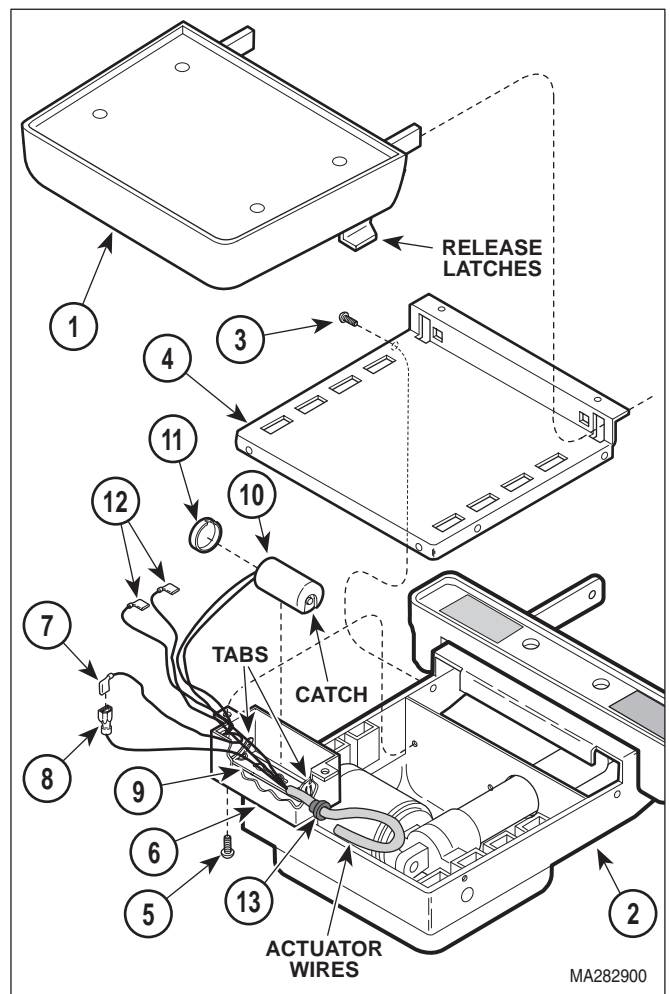
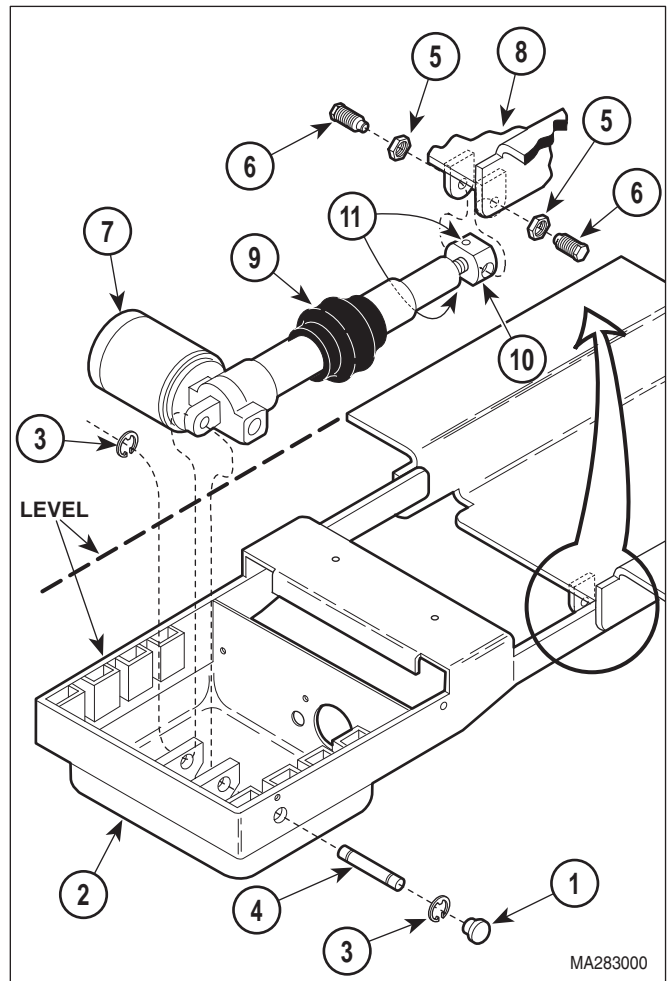

Figure 4-11. Wires Disconnection / Connection
Figure 4-12. Foot Actuator Removal / Installation
- (1) Unplug table power cord from wall outlet.
- (2) Squeeze release latches and remove foot board assembly (1, Figure 4-11) from foot extension weldment (2).
- (3) Remove four screws (3) and front trim (4) from foot extension weldment (2).
- (8) Discharge foot capacitor (10).
- (9) Tag and disconnect two wires (12) from terminals of foot capacitor (10).
- (10) Remove snap bushing (13) from foot capacitor cover (6).
- (11) Pull actuator wires thru snap bushing (13).
- (12) Remove hole plug (1, Figure 4-12) from foot extension weldment (2).
- (13) Remove two e-rings (3) from clevis pin (4).
- (14) Using a hammer and punch, drive clevis pin (4) from foot extension weldment (2).
- (15) Loosen two jam nuts (5); Then, while supporting foot extension weldment (2), remove two pivot screws (6) securing foot actuator (7) to seat weldment (8).
- (16) Remove foot actuator (7) from foot extension weldment (2).
- (17) Remove foot actuator bellows (9) from shaft of foot actuator (7).
- (1) Install foot actuator bellows (9, Figure 4-12) on shaft of foot actuator (7).
- (2) Screw adjustable end mount (10) on shaft of foot actuator (7). Tighten two setscrews (11)./
- (3) Position foot actuator (7) in foot extension weldment (2).
- (4) Secure foot actuator (7) to foot extension weldment (2) with clevis pin (4) and two e-rings (3).
- (5) Seat the foot actuator bellows (9) in foot extension weldment (2) properly.
- (6) Install hole plug (1) in foot extension weldment (2).
- (7) Pull actuator wires thru snap bushing (13, Figure 4-11).
- (8) Install snap bushing (13) in foot capacitor cover (6).
- (9) Connect two wires (12) to terminals of foot capacitor (10).
- (10) Install cap (11) on foot capacitor (10).
- (11) Position bottom of foot capacitor (10) on capacitor mounting bracket (9) and then push the top of the capacitor inward. Using a screwdriver, force the tab of the capacitor mounting bracket down over the catch of cap (11). Make sure back capacitor is held firmly in place.
- (12) Connect foot actuator wire (8) to wire (7).
- (13) Install foot capacitor cover (6) on foot extension weldment (2) and secure with two screws (5).
- (14) Install front trim (4) on foot extension weldment (2) and secure with four screws (3).
- (15) Install two jam nuts (5, Figure 4-12) on two pivot screws (6) fully.
- (16) Connect foot actuator (7) to seat weldment (8) and secure with two pivot screws (6).
- (17) Plug table power cord into wall outlet.